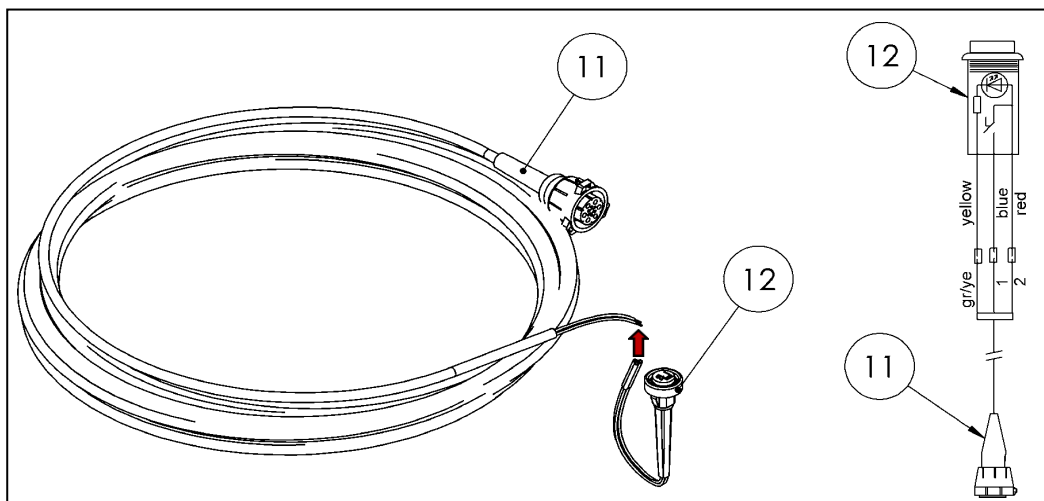

Figure 52
- Drill a 16 mm dia. hole for the cabin switch (12) in a suitable location on the dashboard.
- Snap the cabin switch (12) into the hole.
- Route the cabin switch unit cable (11) from the lifting gear to the front.
- Connect the cabin switch unit as shown in Fig. 52.